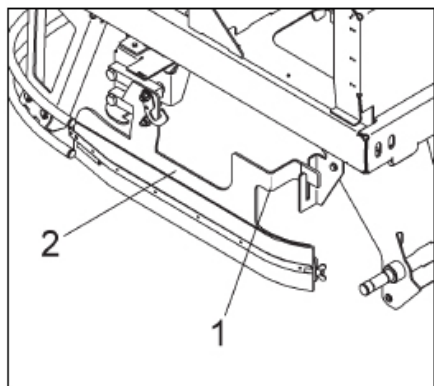

Figure 13 - Side Squeegee in normal working position
3. Lift complete side squeegee at holding point (Figure 13/1) and swing squeegee to the outside.
5. Replace side squeegee mounting accordingly reverse order (Figure 13).